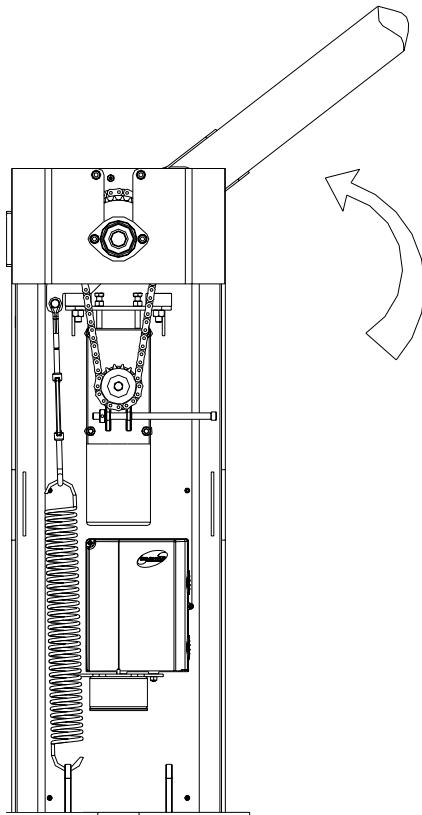

**Fig. 5**
- Fix down the bar holder bracket without wholly tightening down the screws (Fig. 5).